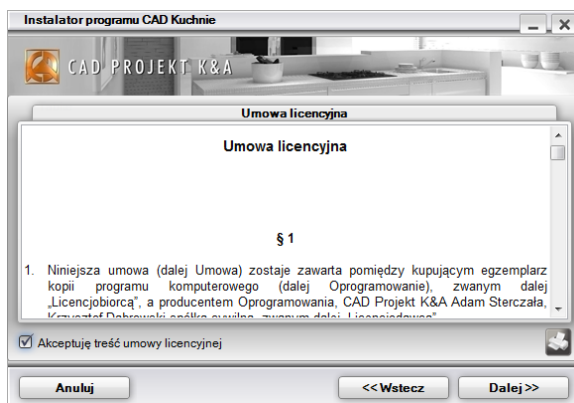

Fig. 5 – License Agreement dialog box
- the **License Agreement** dialog box (Fig. 5) will display;